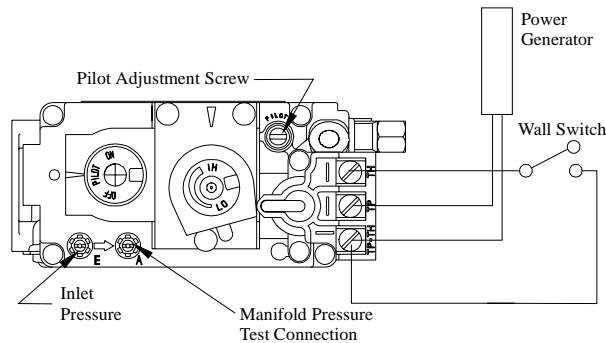

Figure 27 Sit Nova 820 gas valve.
- Have the fireplace installation inspected yearly, including a visual check of the vent system, the burner and the pilot flame. For your convenience a 1/8" manifold pressure tap is supplied on the gas valve for a test gauge connection. See Figure 27.
1. Locate Pilot Adjustment Screw. (See figure 27.)
| Pilot won't ignite | Disconnect remote wires and try to light pilot. If pilot now works, remote connections are faulty. Check wiring diagram figure 27. |
| Main burner will not light | <ol style="list-style-type: none"> 1. Check wiring (see figure 27). 2. Check wall switch for proper connection. |